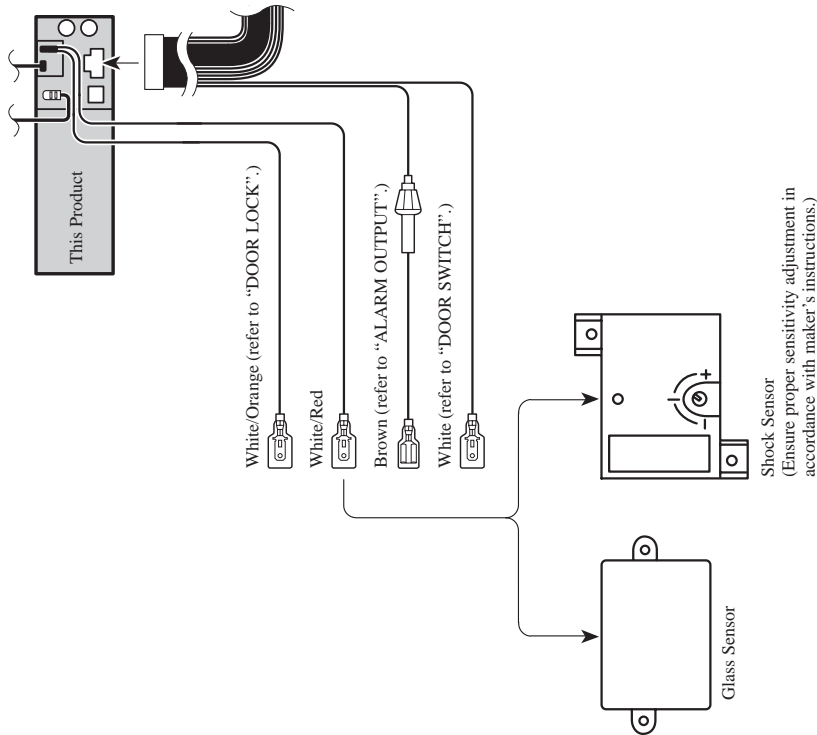

Fig. 32
- **White/Red (ALARM SENSOR)** (Fig. 32)